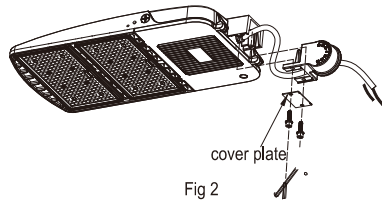

Fig 2
Step 2 : Pass the fixture's AC input wires through the fixing base then tighten screws to assemble fixing base to fixture body. The screws are threaded through the cover plate and bracket and secured to the fixture, as fig 2